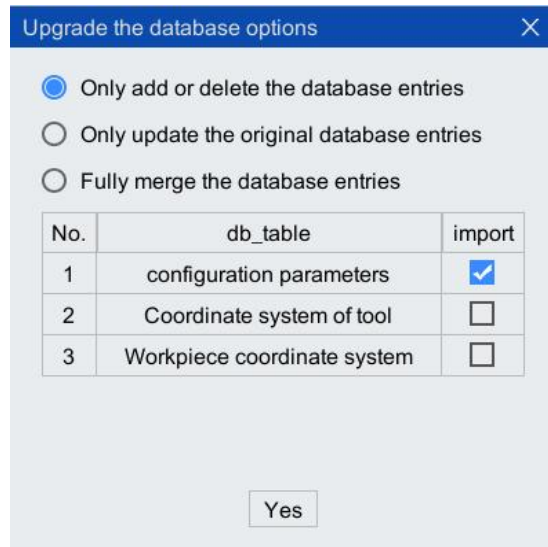

Figure 8-43 "Upgrade Database Option" interface
Step3. Pop up "Upgrade the Database Option" interface shown in Figure 8-43, configure the options according to the needs (for details, please refer to Table 8-9. You can only select one of the first 2 items in the table, and the last three items can be selected in multiples), and then click <Yes> button.